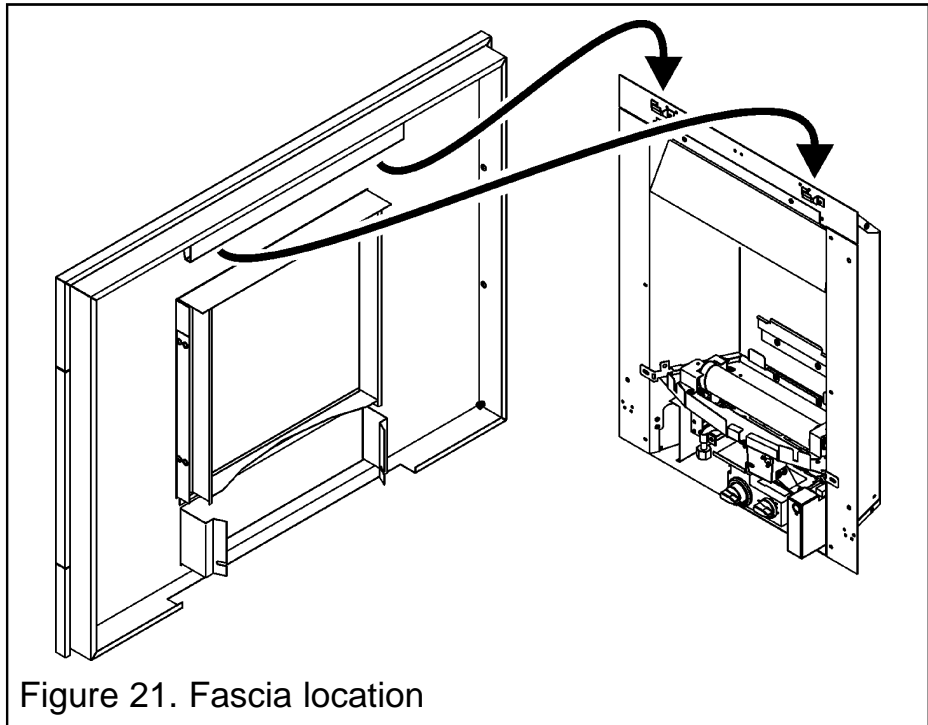

Figure 21. Fascia location
3. Carefully lift the fascia. Place the fascia against the fireplace front surface so that the retaining plate at the back of the fascia is directly above the two upper retaining brackets at the top of the hotbox. Lower the fascia unit making sure that the retaining plate locates fully into the brackets on the hotbox (See figure 21).